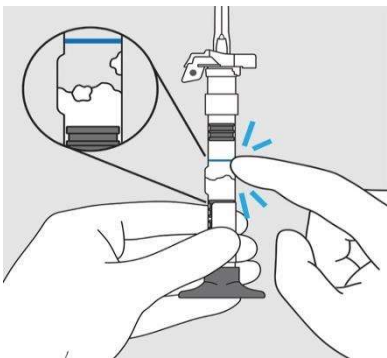

Figure 4: Check Powder
5. Gently tap the syringe to remove any lumps and release any powder stuck on the syringe walls. (Figure 4)